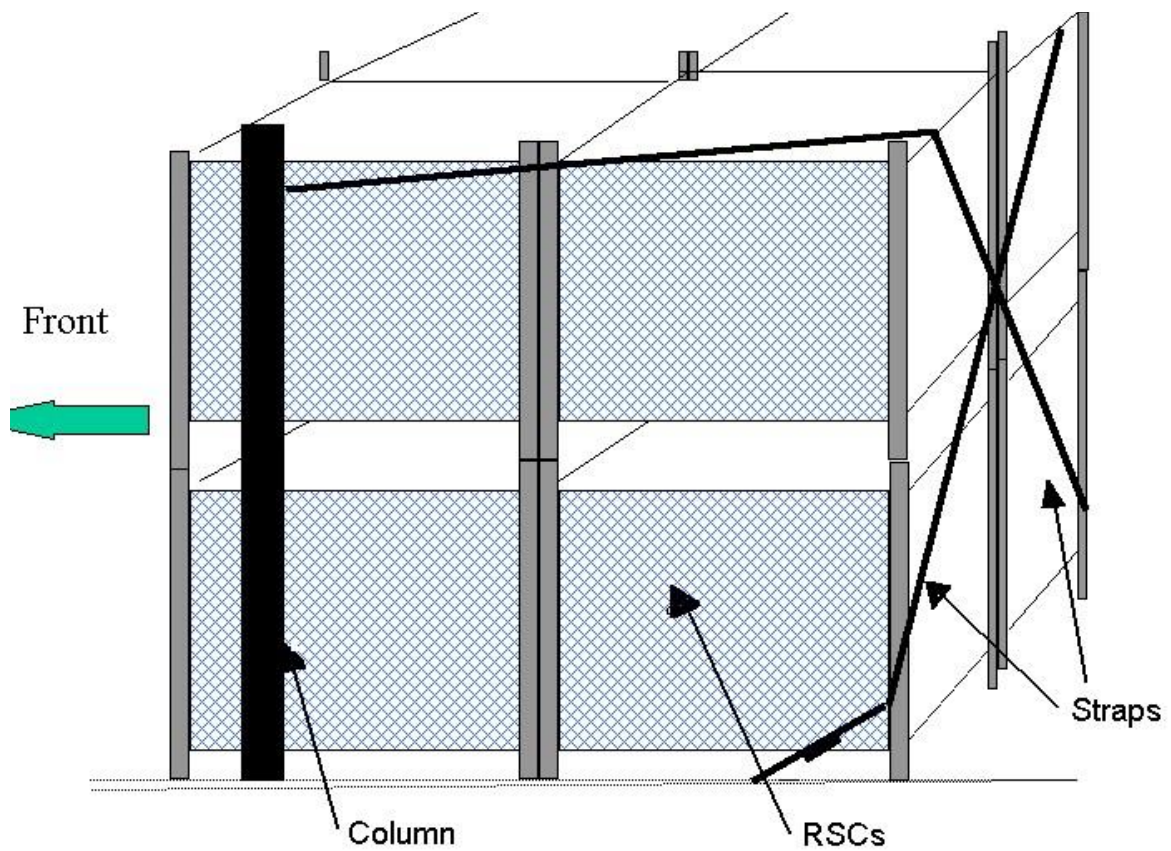

Figure 4
7. Ensure that the RSCs are positioned longitudinally, (as figure 4)